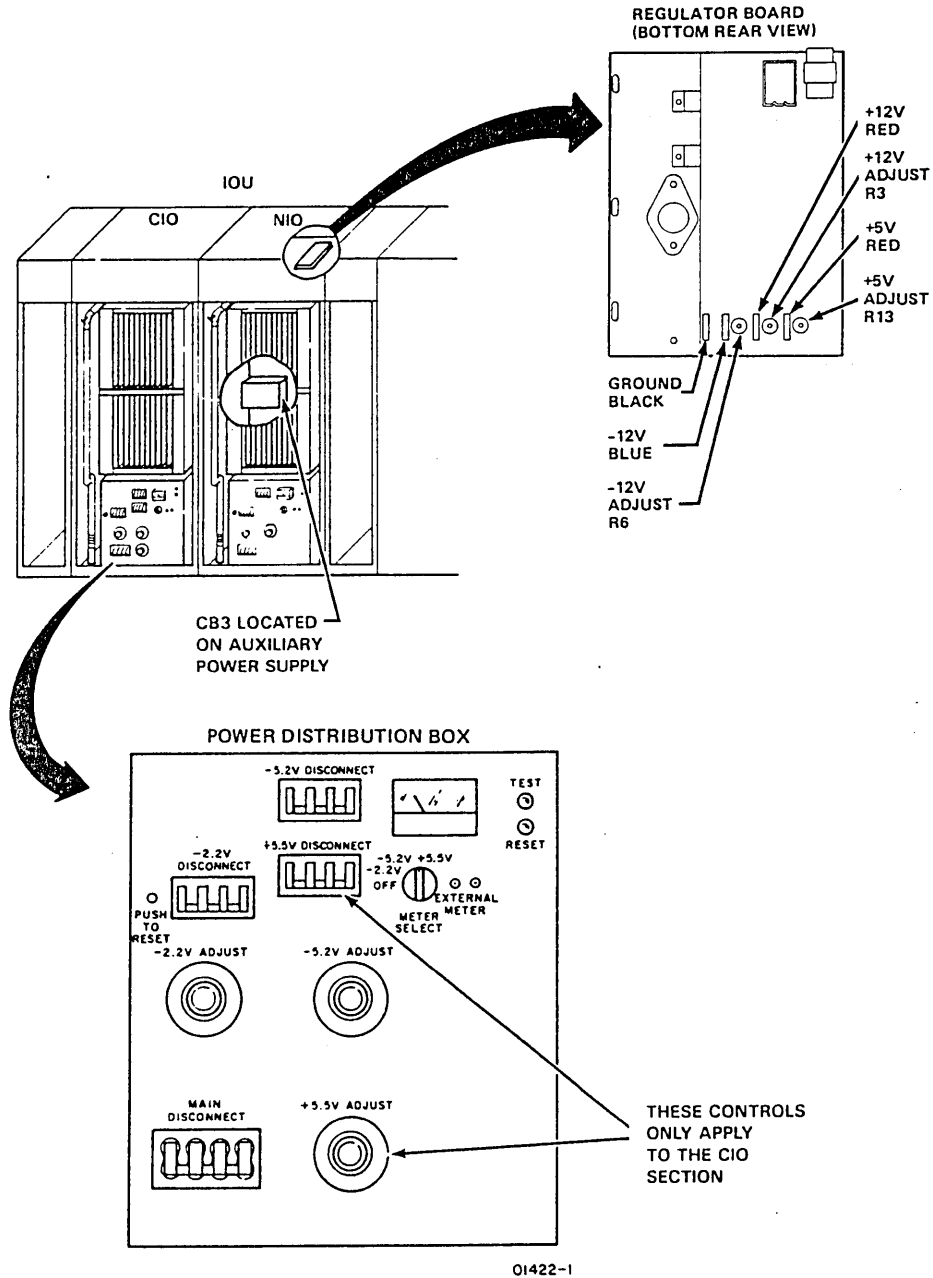

Figure 3-42. IOU Power Controls and Adjustments
- ___ 1. Set following circuit breakers and voltage adjust knobs on both NIO and CIO cabinets power distribution boxes (figure 3-42) as follows: